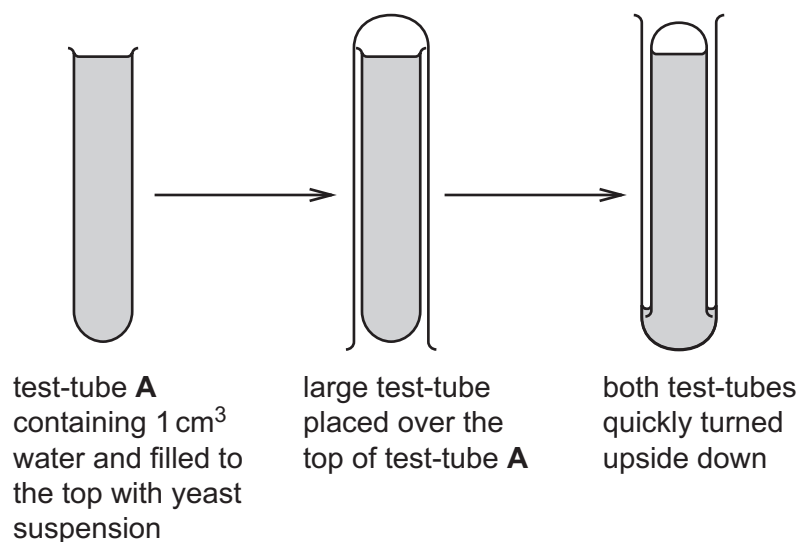

Fig. 1.1
Step 9 Place a large test-tube (boiling tube) over the top of test-tube **A** and quickly turn both test-tubes upside down as shown in Fig. 1.1.